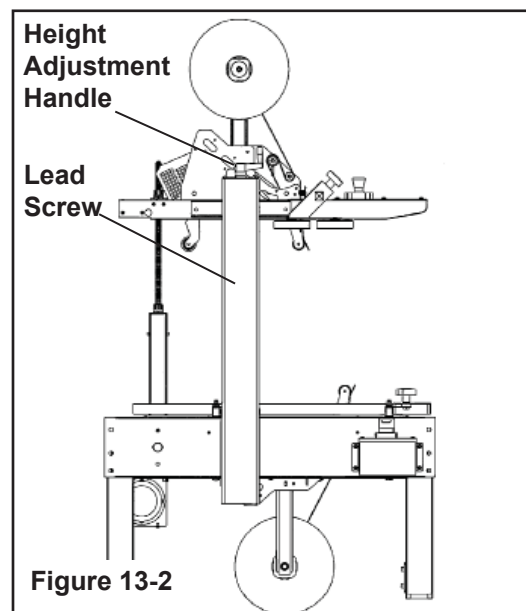

Figure 13-2
Figures illustrate the taping head and frame points which should be lubricated every 250 hours of operation. Lubricate the rotating and pivoting points noted by the arrows with a synthetic lubricant. At the same time, a small amount of Silicone should be applied to the end of each spring where the loop is secured to an eyelet (**Figures 13-2**).
- Synthetic Silicone Spray may be used on Lead Screw (**Figure 13-2**).